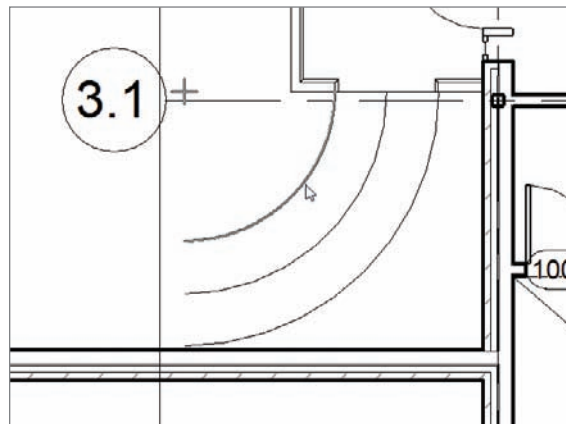

FIGURE 10.40 Selecting the smaller arc
1. Press Esc, and then select the smaller arc, as shown in Figure 10.40.